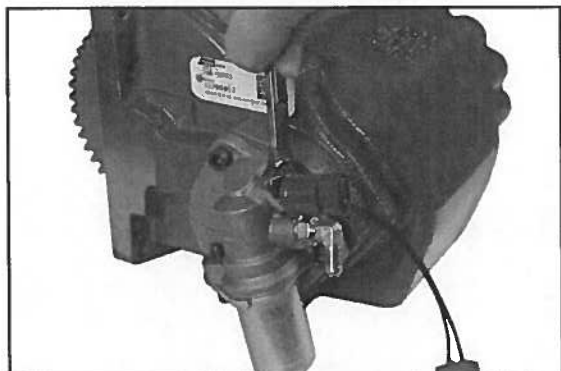

Fig. 7
1. Install PTO pressure switch, part #379502, into port on Hydraulic Valve Cap. Torque between 120-140 In-lbs [14-16 Nm] (**Fig 7**).